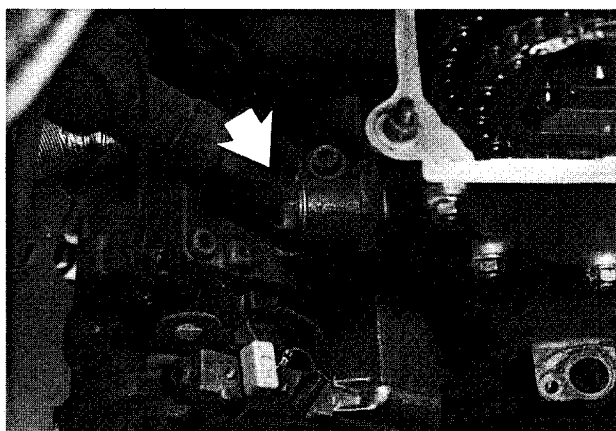

Fig. 37. Primary timing chain tensioner (arrow).
31. Remove primary timing chain tensioner from side of cylinder head. See Fig. 37.